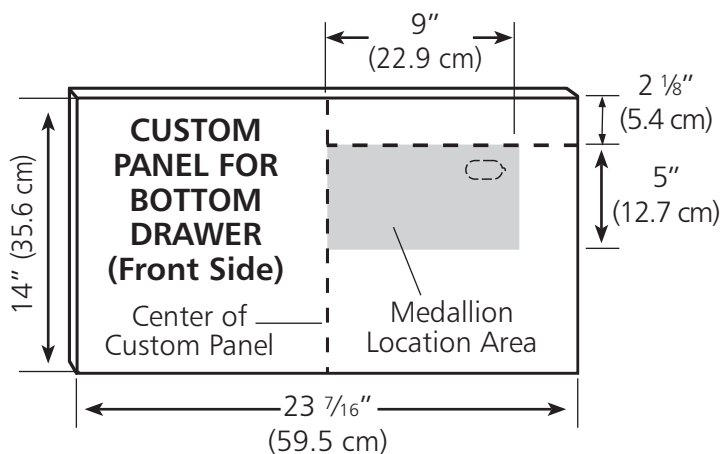

FIGURE 1B
2) Cut the bottom drawer custom door panel to size as shown (See figure 1B). The custom panels may be wider than the dishwasher in order to match the surrounding cabinets.
5) On the front side of the bottom drawer custom door panel, measure, mark and cut a hole for the medallion to size as shown (See figures 1B & 2).
NOTE: The medallion must be placed within the specified medallion area. Do not locate outside of this specified area (See figure 1B).